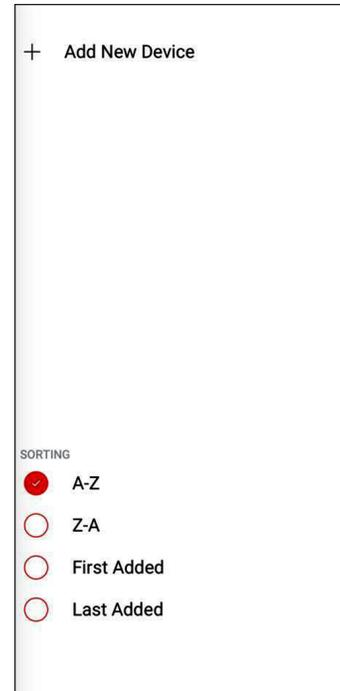

Figure 90. Organization Icon
2. Devices menu will appear, where you can choose sorting or even add a new device to the current organization. See **Figure 90**.